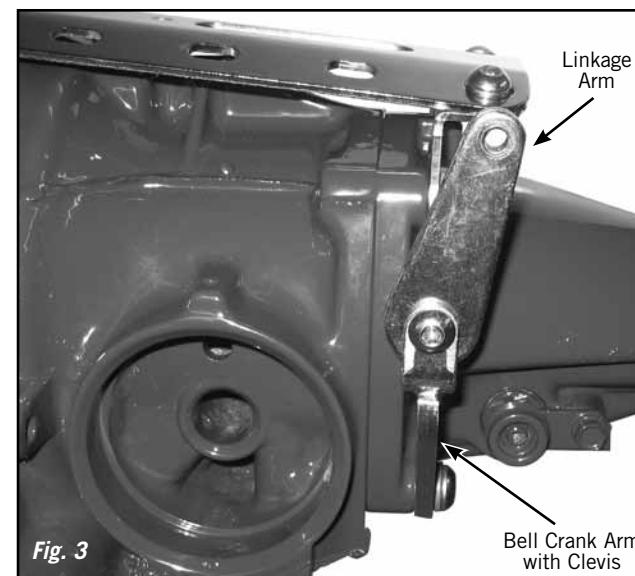

Fig. 3
Step 4: Install the linkage arm into the bell crank arm with clevis, using the 5/16"-24 x 7/8" button head bolt and nylock nut. Tighten the nut, but make sure that the linkage arm still moves freely. **Fig. 3**